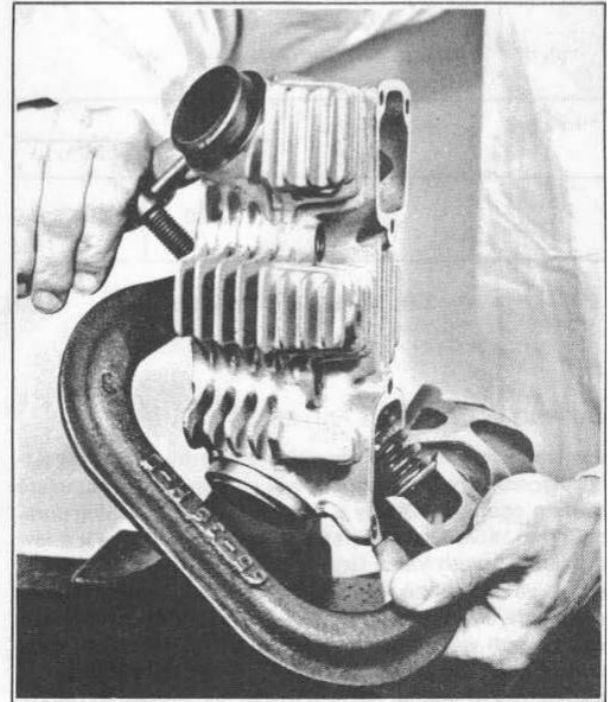

Figure 3-8. Valve Spring Compressor
Compress valve springs using Valve Spring Compressor, Part No. 96600-36 (see Figure 3-8) and remove valve keys (14) from ends of valve stems. Remove valve spring collars (15 and 18), springs (16 and 17) and valves (19). It is customary to reassemble valves in same cylinder head from which they were removed; therefore, before removing, mark them in some manner to identify them with front and rear cylinder head.
If valves have been reseated several times, valve seats may have become too wide and/or valve may be seating itself too deeply in head. When valve seat becomes wider than 1/16 in. (see Figure 3-8) valve seat relief must be counterbored or ground to reduce seat to 1/16 in. Counterbore dimensions are shown. Tools for this purpose are available commercially. To determine if valve is seating itself too deeply in head, measure distance from shoulder of valve guide to end of valve stem. See dimension in Figure 3-8. When valve stem extends through guide in excess of maximum shown, valve seat inserts must be replaced.